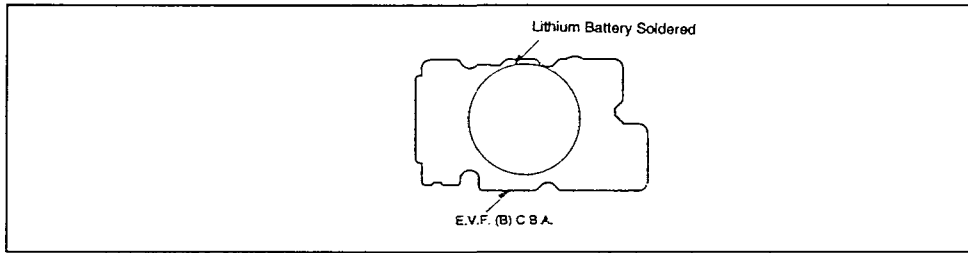

Fig.B1
2. Unsolder the Lithium battery "VLF2020/1HF" and then replace the new one. (See Fig.B1)